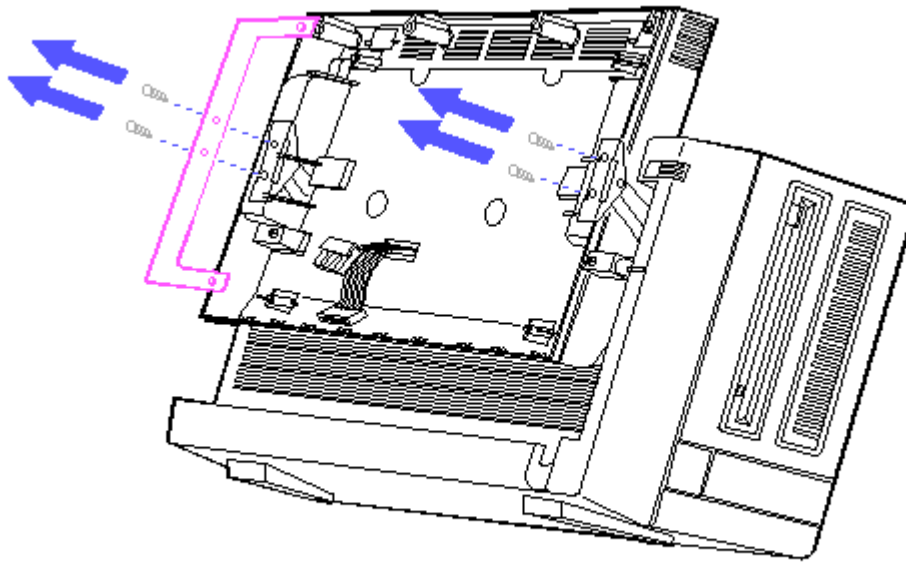

Figure 8-85. Removing the Plasma Display Hinge Screws and Display Ground Bracket
8. Remove the four screws that secure the display enclosure to the plasma display hinges (Figure 8-85).
you face the display enclosure) will also remove the display ground (Figure 8-85).